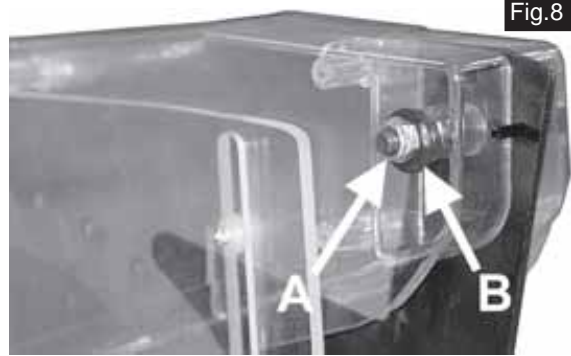

Fig.8
Attach the Blade Guard to the Riving Knife, as shown in Fig. 8, ensuring the large plastic washer (B) is used. Tighten the self locking nut (A) sufficiently for the Guard to be secure, but capable of dropping fully under its own weight.